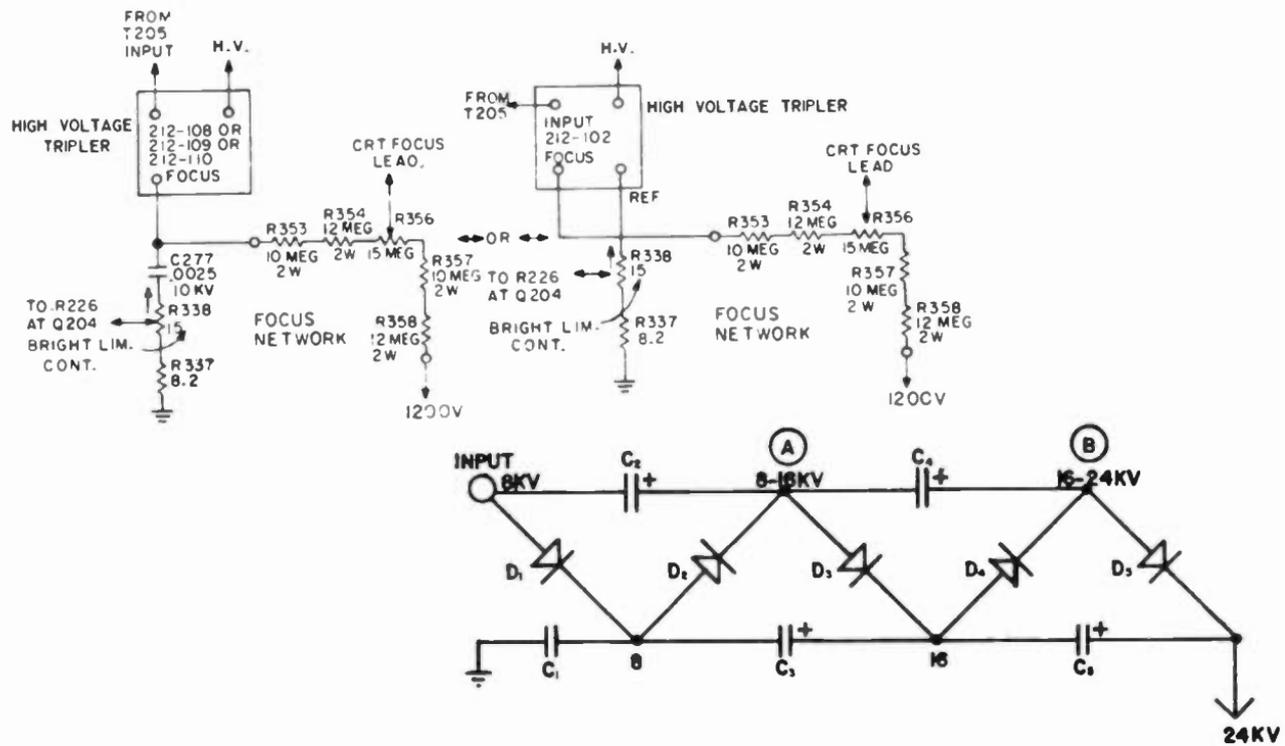

Fig. 10-4. Zenith's C4030 horizontal output and high-voltage tripler circuits, which generates 24 kilovolts.
The circuit in Fig. 10-4 is standard in the 4B25C19 (B4030-C4030) Zenith chassis series. The usual grid leak biased horizontal output tube supplies drive for the flyback, yoke, saturable reactor pincushion transformer, and AGC-AFC video-sync limiting and frequency correction circuits. The output connects to the primary of the horizontal output transformer, two windings above the V204 damper cathode tap. The yoke connects at the third and fourth tapoffs, and the pincushion reactor to the fifth. The input tube drive waveform, this time a trapezoid, is illustrated by waveform 16 (Fig. 10-4), with the AFC negative-going pulse shown by waveform 17. The most interesting waveforms, however, are those illustrated by 54 and 55.
The high-voltage output is coupled to the tripler circuit shown at the bottom of Fig. 10-4. This "stack" can either have an input capacitor between the flyback (usually does) and the tripler, or a capacitor to ground from terminal 8. In this arrangement, C1 charges positively through D1 on the initial HV output, but divides with D2-C2, so that both capacitors have 4 kilovolts across them. The second HV series charges C1 to  $8 + 4$ , or 12 kilovolts, but C2 divides, and they each then store 6 kilovolts. On the third round pulse, C1 and C2 now have 8 kilovolts across them, and the second branch of the tripler begins to charge. This branch consists of capacitors C3 and C4, plus diodes D3 and D4, and they rectify and charge the two capacitors in steps just like the initial stack. Finally, the third diode rectifies and charges the capacitor, but the input potential is 16 kilovolts, since the first two stacks are 8 kilovolts each. Since C5 has no other divider capacitor with which to equalize, it retains the 16 KV plus 8 KV, and the total output applied to the picture tube is a full 24 kilovolts. Notice that the voltage is cumulative across all three stacks so that a voltmeter placed between output and ground will read the fully developed voltage, including that of the flyback transformer. The small schematics beneath the subsystem diagram show two tripler versions with slightly different divider networks and, in the first, a capacitor between the focus tap and brightness limiter.
In the B-C4030 there is also a brightness limiter that controls beam current as a function of high voltage (Fig. 10-5). A beam current sampling out of the voltage tripler is connected through a potentiometer to the input of Q204, a limiter transistor, which is protected by zener diode CR214. If there is a beam current increase, the current through the arm of tripler-brightness potentiometer R338 (Fig. 10-4) will also increase and cause a positive voltage drop, turning on the brightness limiter. Q204 is a little more than a switch, and it will turn on more or less, supplying a resistive ground path for the base of second video amplifier Q205, reducing its conduction and output, and so lessening the cathode ray tube's beam current.
12. In Fig. 10-4, use the equation: